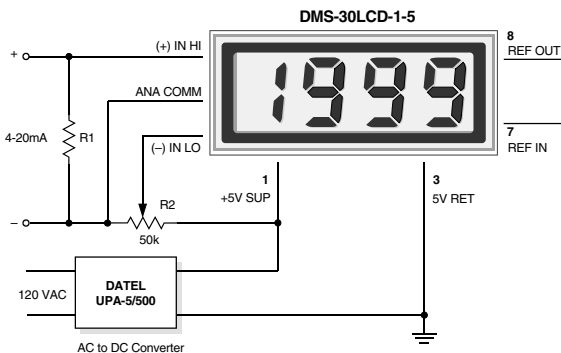

Figure 7. 4-to-20mA Current Loop Operation (5V-Powered Models)
- 5. Process Control (4-to-20mA) Measurements:** In many common process-control applications, a 4-to-20mA current loop is used to transmit information. Because DMS-30LCD meters have such high input impedance, a simple shunt resistor across the meter's input can be used to convert the loop current to a voltage. See Figure 7. The value of the shunt resistor is a function of the scaling requirements of the particular application and can be calculated using the following equation:
To calibrate the circuit of Figure 7, perform the following: